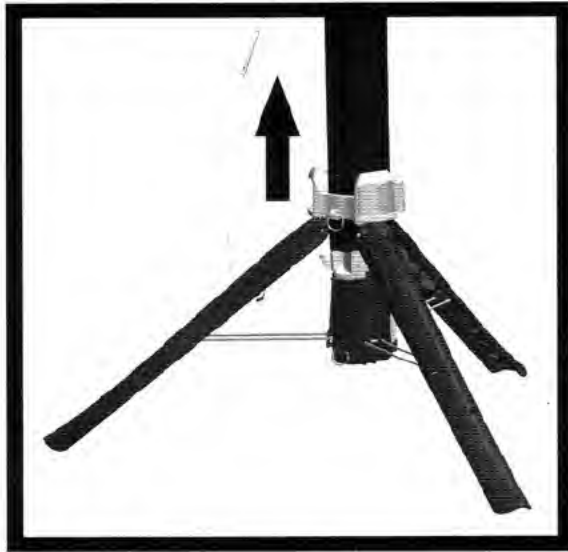

Fig. 4
2. Pull the deployment collar upwards sharply (to dislocate it – see Fig. 4) and continue sliding the collar up until it runs out of travel. The legs can then all be pushed inwards and will automatically latch in place.